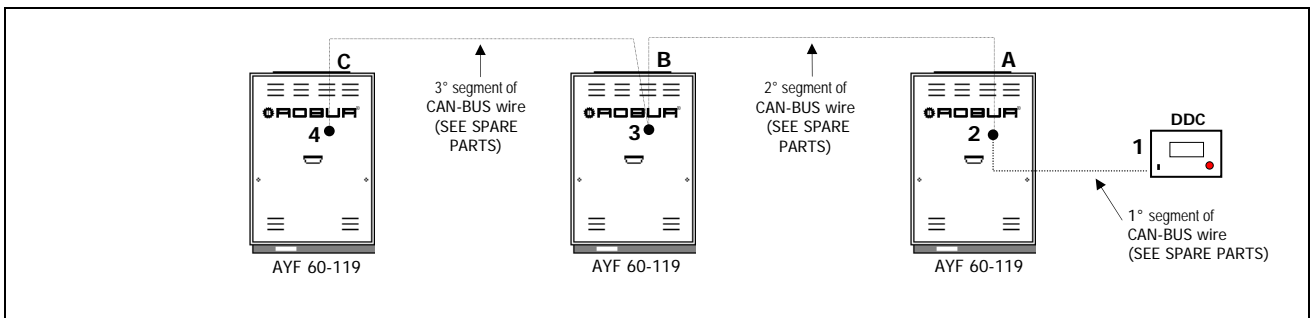

Figure 21 – EXAMPLE CONNECTION OF DDC TO N.3 ACF60-00 UNITS CONNECTED ON THE SAME HYDRONIC SYSTEM (4 nodes network).
The connection between DDC and the unit (or more units) is made through a CAN-BUS wire, in a way to create a parameters communication network, characterized by one series of “n” nodes (see Figure 20 and Figure 21, pag. 45). The parameters communication network can connect max 3 DDC.
1. Open air bleed(s) located at the highest point in the system. Connect a hose between the charging pump and Valve A. Connect a hose to Valve C and place the other end of this hose into the mixing container (See Figure 21).